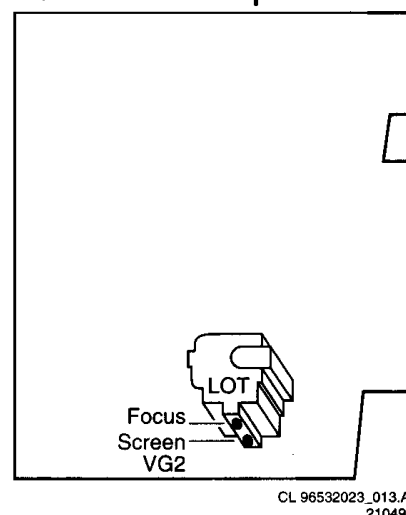

Figure 8-28
- Adjust the focus potentiometer (diagram A1, upper knob of the LOT, see Fig. 8.28) for an overall optimum focusing of the picture.